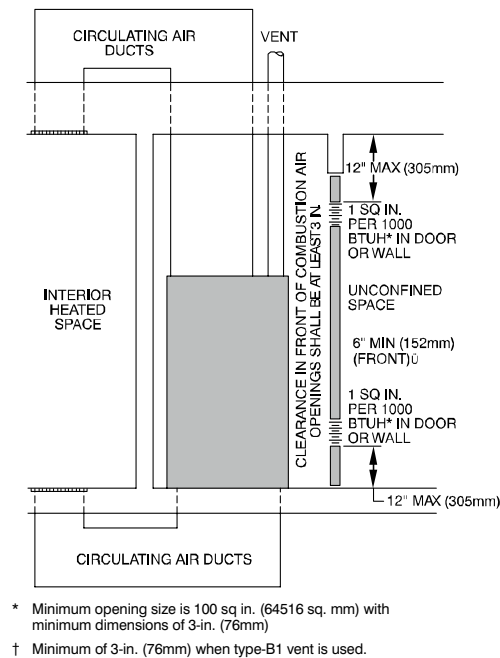

Fig. 7 – Air for Combustion, Ventilation, and Dilution from Indoors ^{L12F013}
- Combining spaces on same floor level. Each opening shall have free area of at least 1 in.2/1,000 BTU/h (2,000 mm²/kW) of the total input rating of all gas appliances in the space, but not less than 100 in.2 (0.06 m²). One opening shall commence within 12 in. (300 mm) of the ceiling and the second opening shall commence within 12 in. (300 mm) of the floor. The minimum dimension of air openings shall be at least 3 in. (80 mm). See Fig. 7.